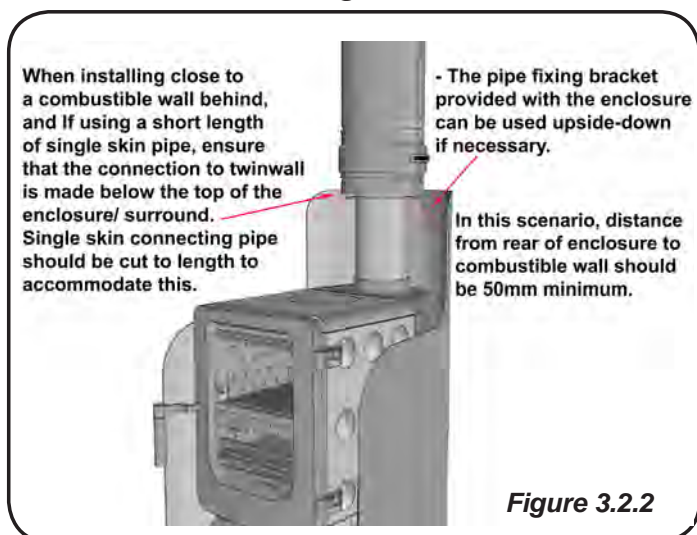

Figure 3.2.2
-If it is necessary to use a short length of single skin pipe first, then the distance to rear of enclosure, from the wall should be increased to 50mm minimum. See **Figure 3.2.2**